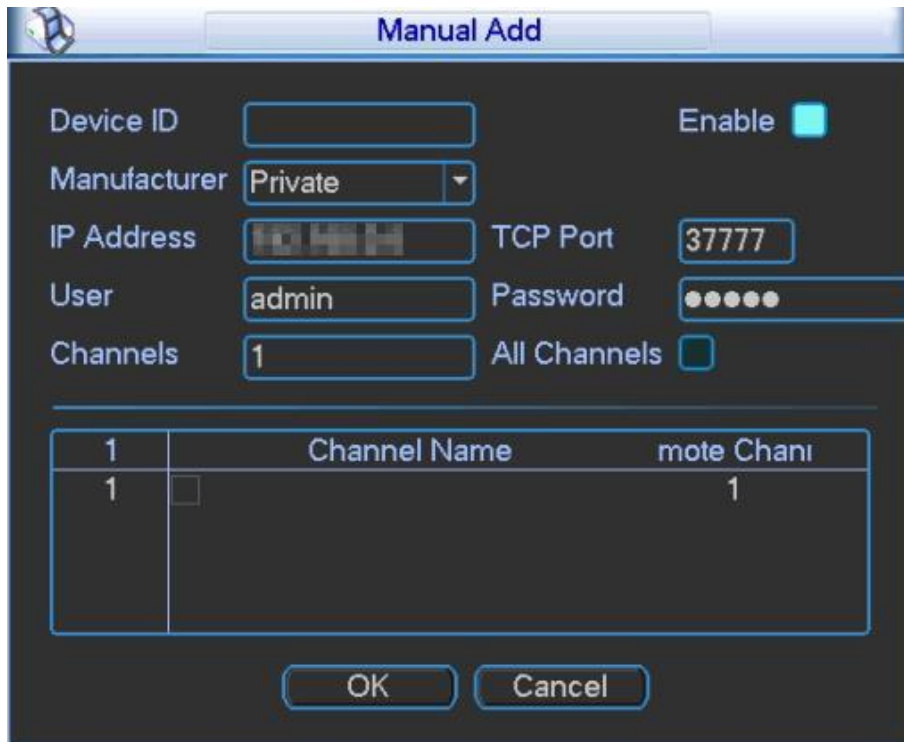

Figure 3-82
Step 1 Click "Manual Add". The system displays "Manual Add" interface, as shown in Figure 3-82.